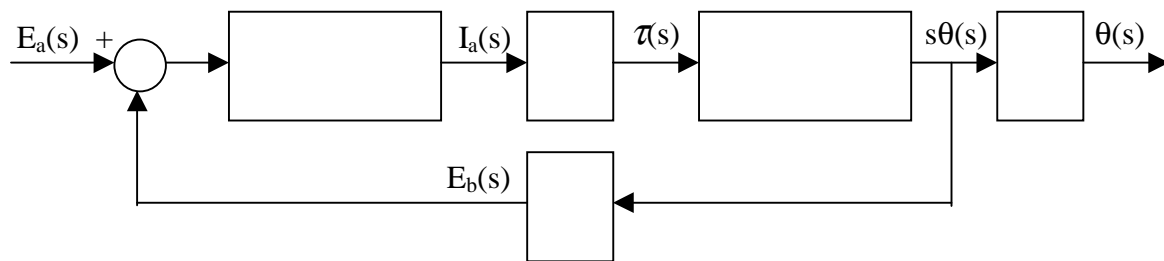

Figure 2: A block diagram of a permanent magnet DC motor.
6. **Evaluate your model.** Use Simulink to simulate the block diagram of figure 2 with motor speed as the output using the parameters that you previously obtained in lab. For step inputs of 10V and 15V, plot the step response and compare these simulation results with the results obtained from actual motor tests for the same voltage values.